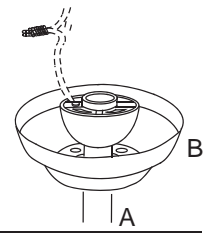

Fig. 2
2. Connect green wire from downrod (A) to green wire on mounting bracket (C). [Fig. 2]